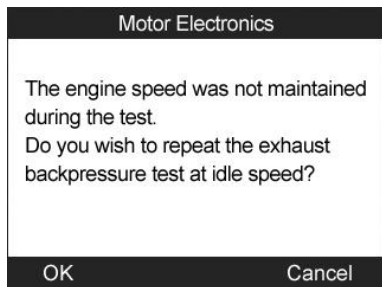

Figure 11.41
- If the engine is not running at idle speed, the tool will display a warning message. (Figure 11.41) Select **OK** to repeat the test or select **Cancel** to exit.